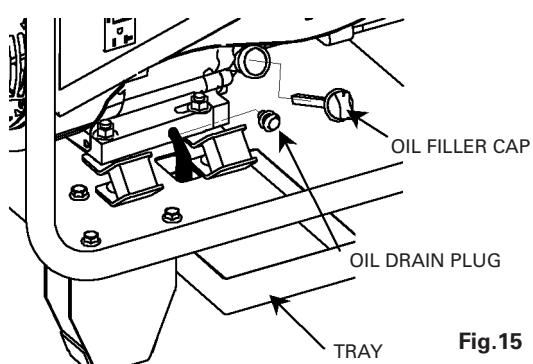

Fig.15
1. Remove oil fill plug and drain plug to drain oil as shown in Fig.15.